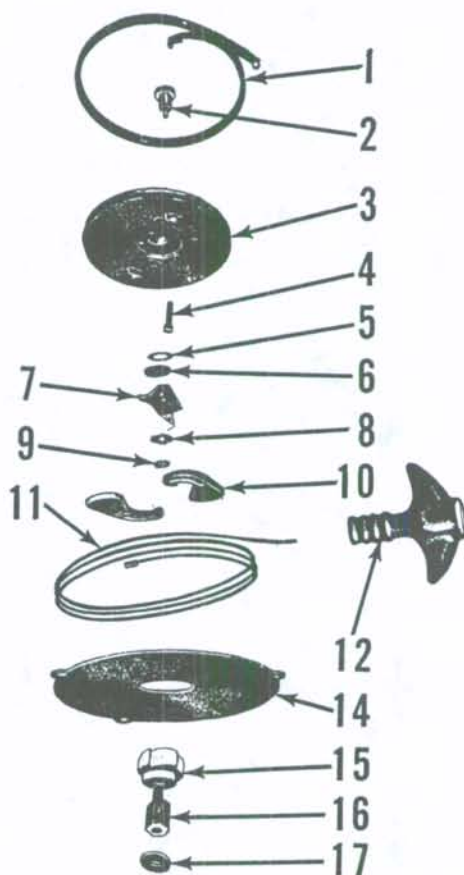

Fig. M1-12—Exploded view of recoil starter showing component parts.
Refer to Fig. M1-12. To install a new starter cord (cable) or spring, remove and invert the top cowl assembly. Pry the cable bushing insert from handle with a screwdriver, slip handle (12) back on starter cable and cut the retaining knot. Release the cable and allow the recoil spring to unwind. Unbolt and remove the friction plate (14) and the starter pawls (10); then remove the sheave retaining screw (4). Slowly pull the sheave (3) down, working behind sheave to make sure the recoil spring (1) remains in recess in housing. Spring can be removed from recess after sheave is removed. NOTE: Wear cotton gloves or protect the hands with a cloth, then grasp and remove the spring, allowing it to unwind slowly after removal.
To renew the sheave (3), shaft (2) or pawl retainer (7), first remove the sheave as previously outlined, grind off the peened end of shaft (2) and drive the shaft out of collar (9) with a punch. Use Fig. M1-12 as a guide for disassembly and reassembly, and peen the collar (9) to shaft (2), making sure sheave is free to turn.